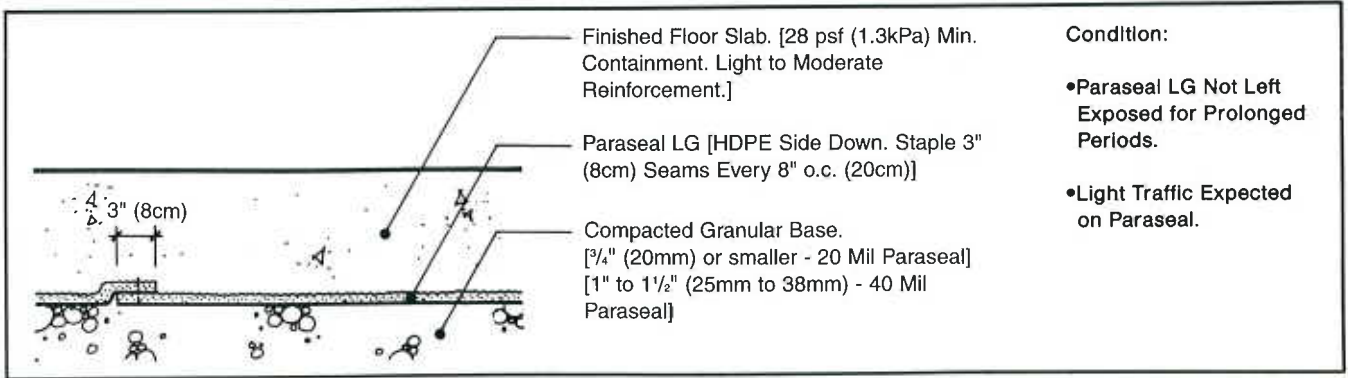

FIGURE 2: Simple Slab-System A (Also See Fig. 6).
1. Paraseal and Paraseal LG can be installed in conjunction with any of the four most typical slab on grade systems with equal performance (See Figures 2 thru 5). The slab on grade system selected and it's corresponding Paraseal installation is based on such factors as; water head, grade condition, climate, traffic by other trades, etc.